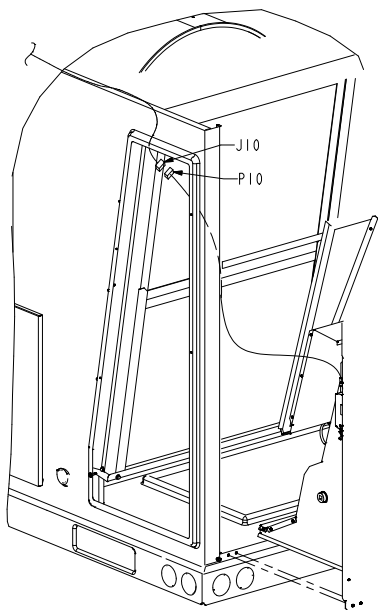

FIGURE 10
- 6- Locate the harness that has connectors on both ends. Connect the female jack with wires labeled J4-3 & 7 to the outdoor air damper harness plug (P4). Connect the other end of harness to J10 hanging in the upper left corner of the return air section. See figure 10 for J10 location.